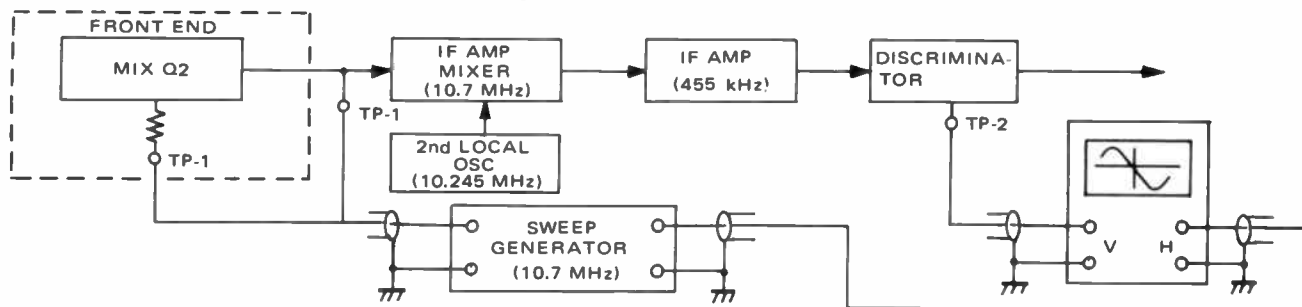

Figure 3. IF TEST SETUP
Step 1: Connect the instruments as shown in Figure 3.